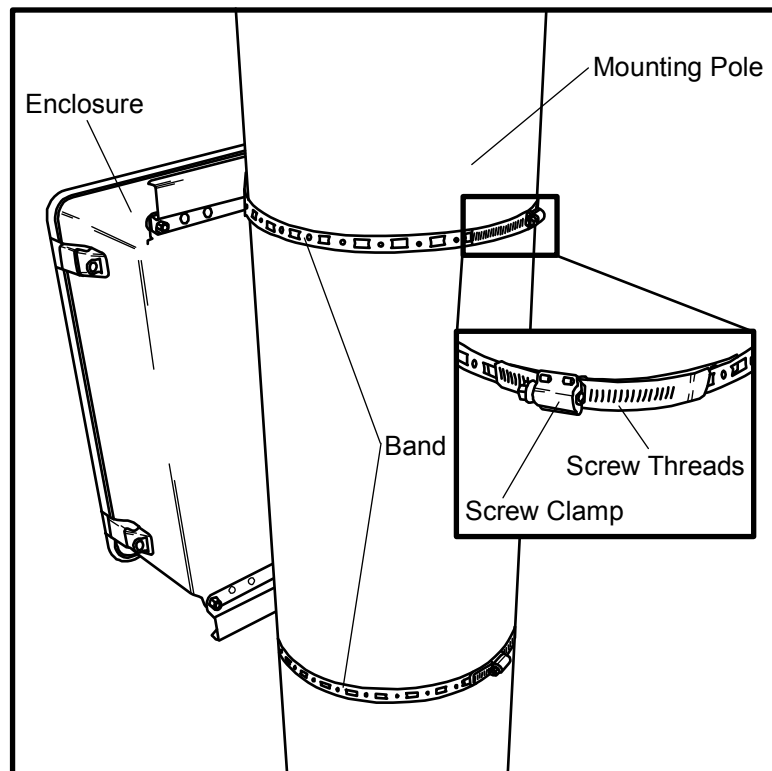

FIGURE 4-14. Securing the enclosure to a pole
5. Insert the tab on the end of the Screw Threads (FIGURE 4-14) into the hole at one end of the upper strap.